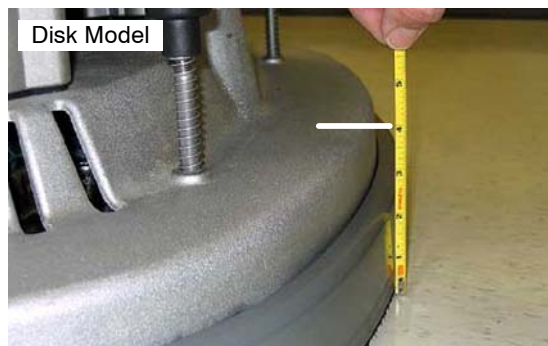

Fig. 14
2. Disk Model: Measure the distance from the front top edge of the scrub head to the floor and from the back top edge of the scrub head to the floor (Figure 14). The two measurements should be equal.